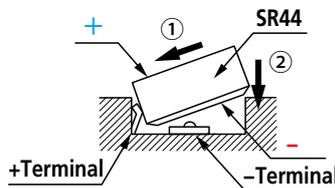

Fig. 1
5. Install an SR44 battery (**Order No.938882**) with the positive side of the battery facing upward. (**Fig. 1**)